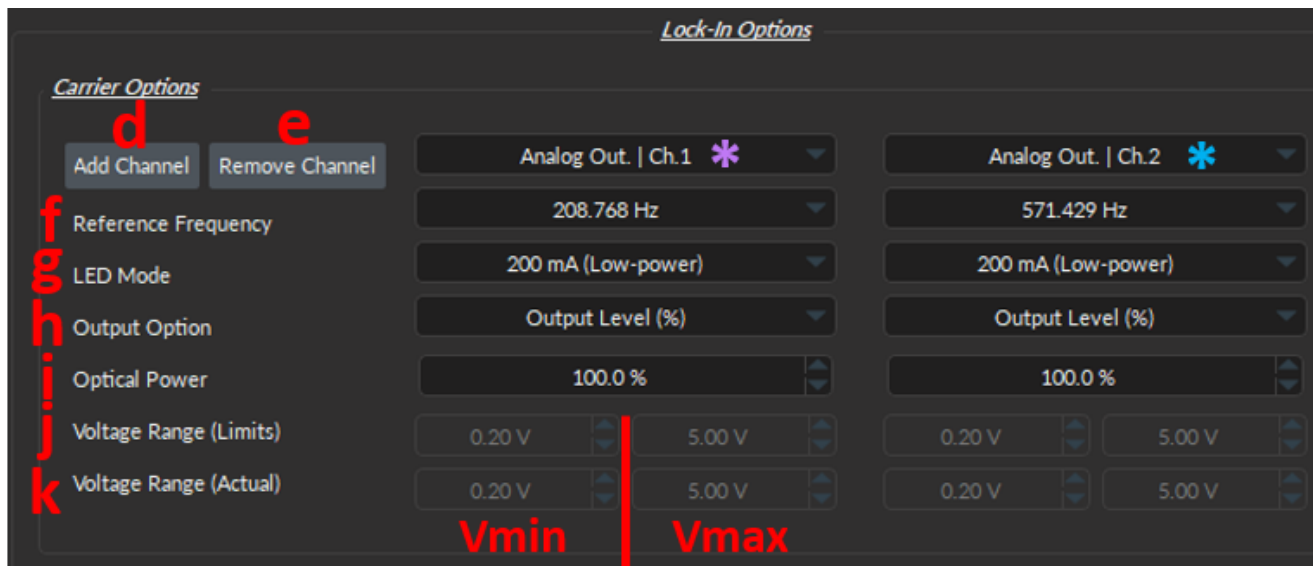
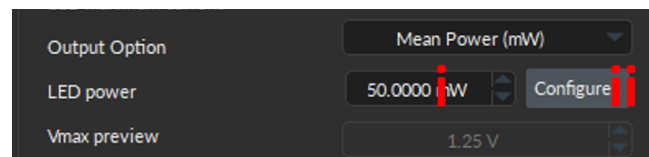
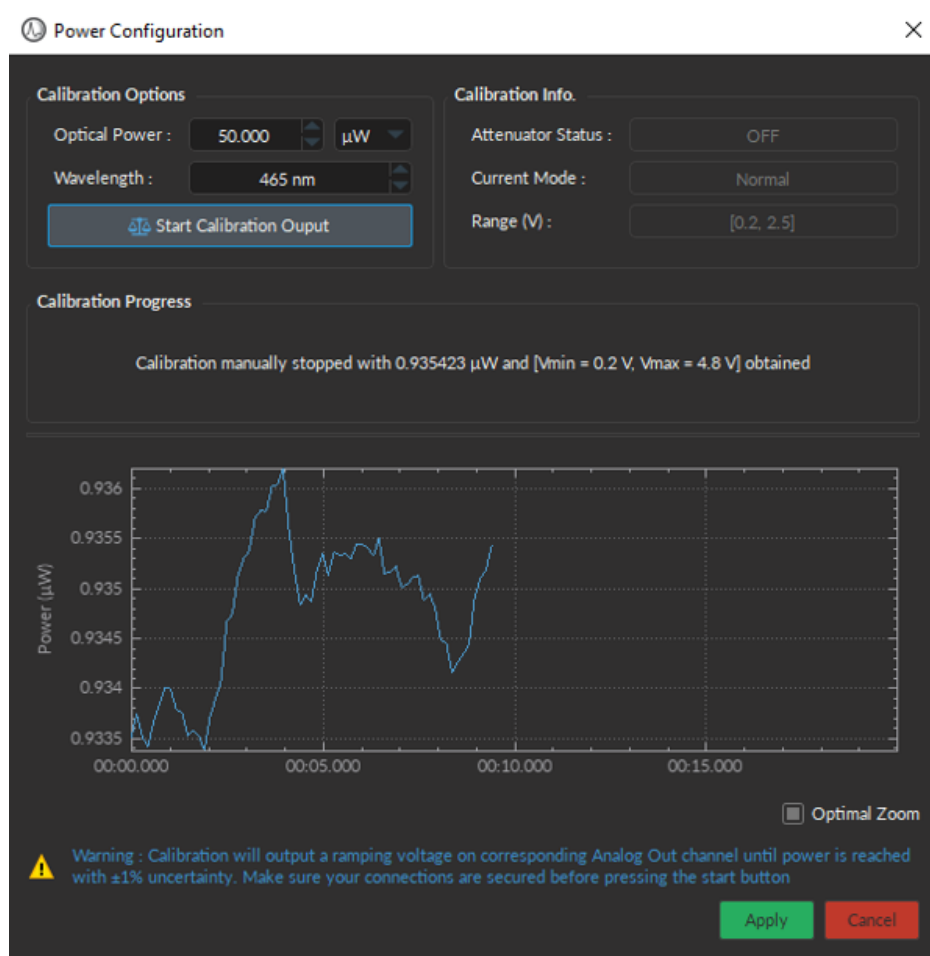

Figure 11.85: Lock-In Settings, Carrier Options
Figure 11.87: Output Options, Mean Power
Figure 11.89: Output Options, Power Calibration
- d) The **Add Channel** (Fig. 11.85, d) creates a new **Analog Output** channel column that will be used to drive the LED excitation required for the **LockIn** preset configuration. At least one channel must be added in the **Lock-In Options**.
- e) The **Remove Channel** (Fig. 11.85, e) deletes the most recently added **Analog Output** channel (right-most column) from the **Lock-In Options**.
- f) The **Reference Frequency** (Fig. 11.85, f) specifies which of eight different preset frequencies will be used as the oscillating **Analog Output** signal to drive the LED excitation. These **Reference Frequencies** have been carefully chosen to prevent cross-talk between multiple LED excitations related to the same **Analog Input** channel, and common noise sources (e.g. ambient light).
- g) **LED mode** (Fig. 11.85, g) is the largest current that the LED can handle. This value should be set either to the **iIFMC-G3** mode (required for G3 Photometry mini-cubes), the **200mA (Low Power)** mode (recommended for G1 & G2 mini-cubes) or, based on the intrinsic maximum current of the LED in use (500 mA or 1000 mA, depending on the type of LED).
h) The **Output Option** (Fig. 11.85, h) selects the unit used to set the **LED Power**. The following options are available:
- **Power (uW/mW)** - directly uses the target power (in microwatts). **Only available when the PRONTO-Si power meter is connected to the computer**. To ensure an accurate target value, individually **calibrate** the fiber for each excitation wavelength of light every time this target is changed using the button in Fig. 11.87, ii. This opens a **Power Configuration** window in Fig. 11.89, where both the **target Power** and the correct **Wavelength** of the LED must be specified before calibration.
i) **Optical power** (Fig. 11.85, i) converts either the specified percentage (**Output Level (%)**) or directly the target value in microwatts (**Mean Power (uW/mW)**, Fig. 11.87, i) into the output voltage that will be sent to the **LED Driver**, displayed in **Voltage Range (Actual)** (Fig. 11.85, j). **If you are using GCaMP and its isosbestic, we recommend that the isosbestic be about half the power of the GCaMP demodulated trace to reduce the risk of photobleaching.**
- **Configure** button (Fig. 11.87, ii) - opens the **Calibration** window (Fig. 11.89) where the target **Power** (in microwatts) and **Wavelength** of the excitation LED is specified, and the **Start Calibrating Output** button is located. The graph in Fig. 11.89 shows a successful calibration, where there is an initial rise in power, followed by an oscillation until the signal converges (flattens) to the target value.
- j) **Voltage Range (Limits)** (Fig. 11.85, j)- automatically displays the maximum voltage based on the **LED Mode** (maximum current) and the **Optical Power** selected above (Fig. 11.85, i). **Vmax** (right column value) can be changed if the **Custom** LED maximum current mode is selected. The **Vmin** should never be below 0.2 V, nor the **Vmax** above 5 V.
- k) **Voltage Range (Actual)** (Fig. 11.85, k) - the default value is set to 0.2 V but can be changed if the **Custom** LED maximum current mode is selected. The **Vmin** should never be below 0.1 V.